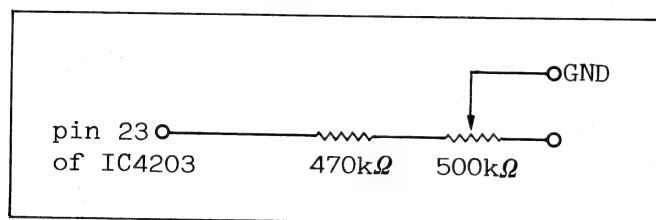

Fig. E16
7. Connect the pin 23 of IC4210 to GND through the resistor and the variable resistor as shown Fig. E16.
10. Remove the Phono plug. Then supply a sinewave signal (1KHz, -20dB, 283mVp-p) to Audio IN(R) jack on the rear panel.